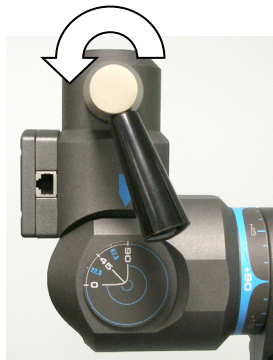

Figure 9-3. Loosen Top Retractable Handle
- Step 1. Locate the top retractable handle, which is on the top right side of the Column Load Cell (Figure 9-3).
- Step 2. Rotate the top retractable handle 1 turn counter-clockwise (Figure 9-3).